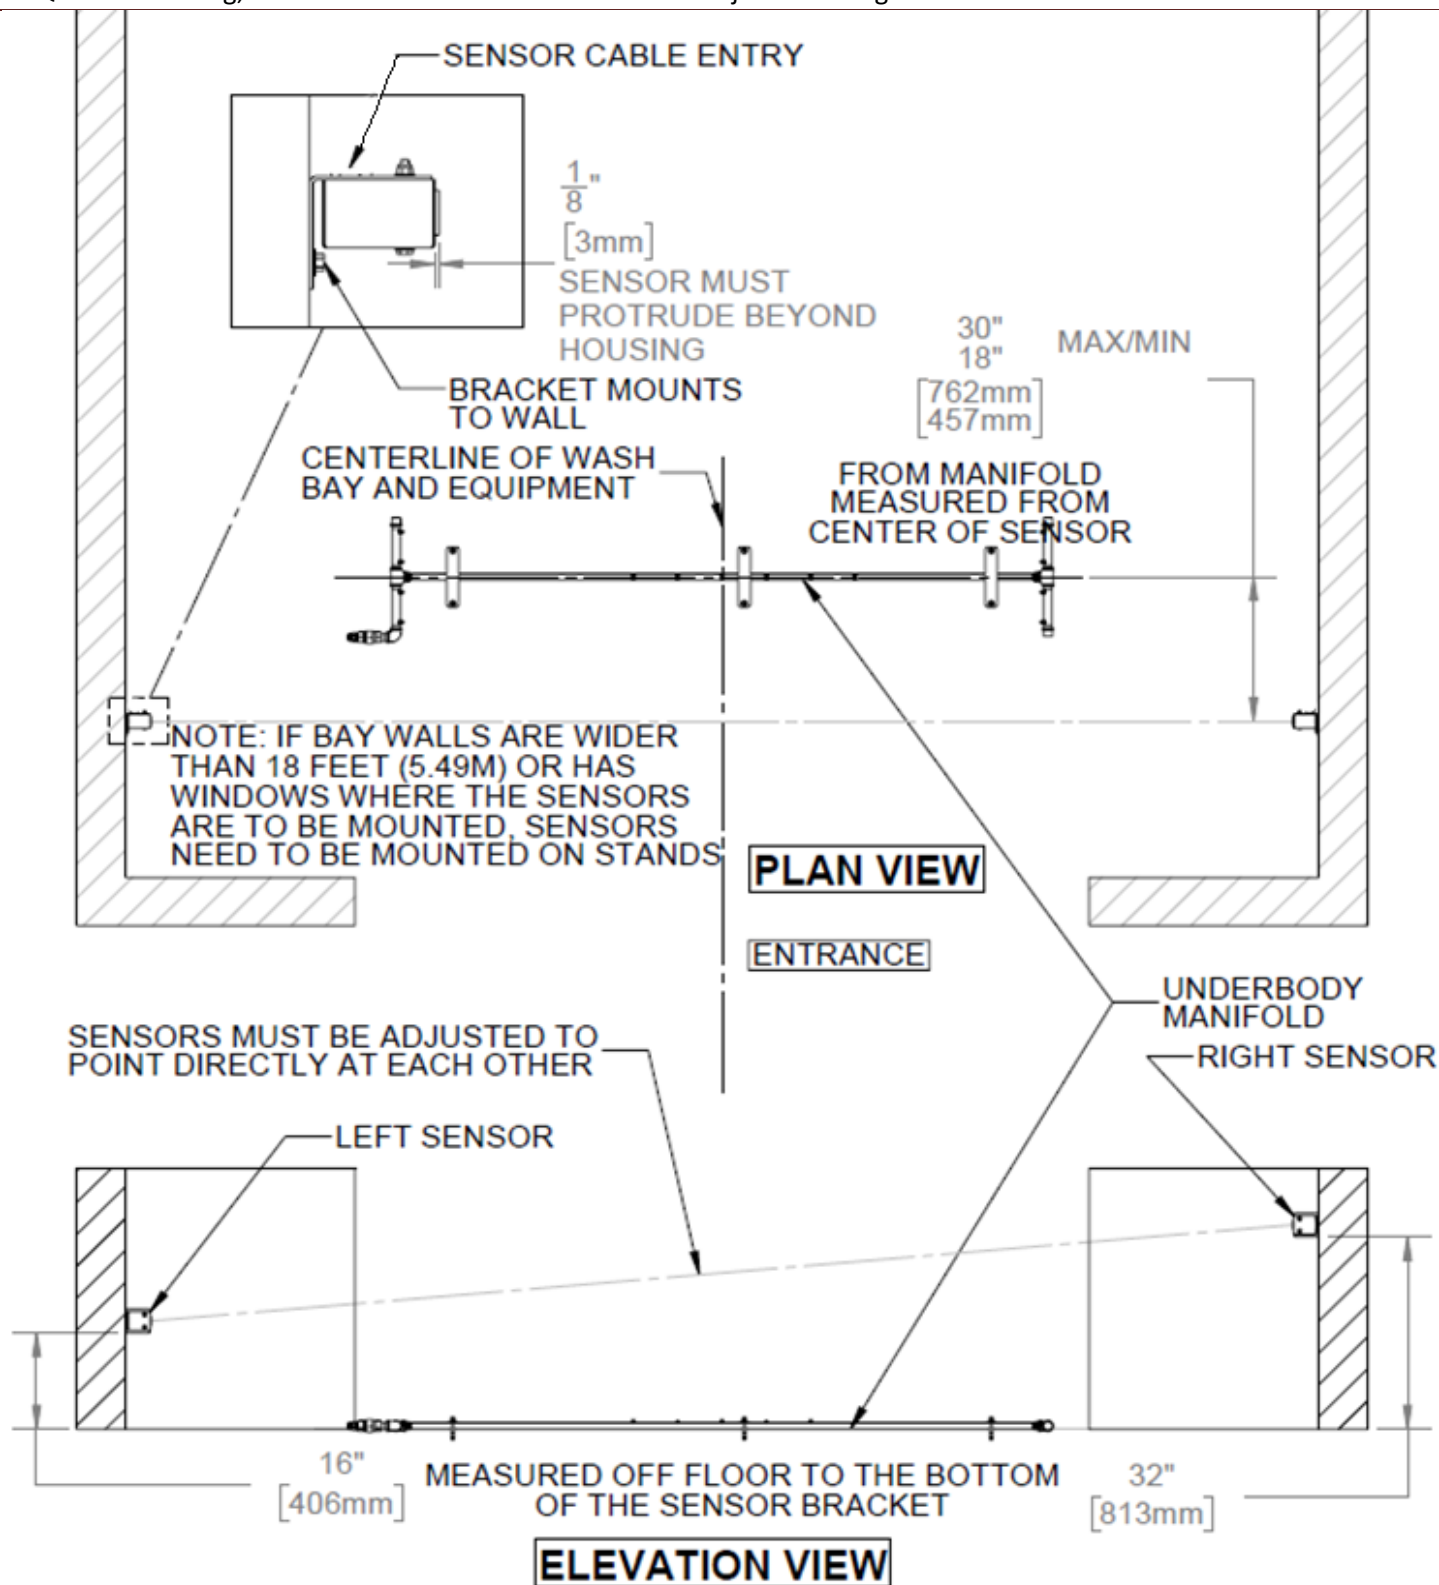

Figure 130 - Wall Mounted Ultrasonic Underbody Activation Sensor Location
- Figure 130 shows the preferred mounting positions for the wall mounted ultrasonic sensor assemblies.
- Mount the sensor assemblies to the walls while taking note of the direction of the strain relief for the sensor cable. Be sure this is pointed in the best direction to accommodate the bay wiring. Ensure the sensor face protrudes from the cover as shown in Figure 130.